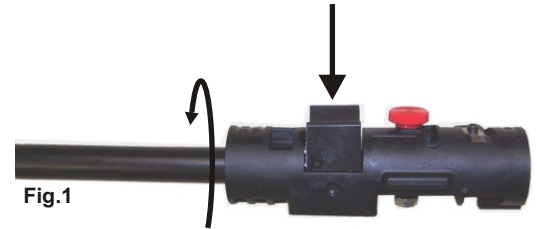

Fig.1
1. Ensure cable end is cut off as square as possible for accurate prep lengths. Insert cable in Cut #1 end up to stop. (If cable is deformed, some re-forming of the end may be necessary.) Rotate the tool and simultaneously engage the cutter blade by applying thumb pressure to the cutter block. Turn and squeeze until the block bottoms against the tool body. (Fig.1)